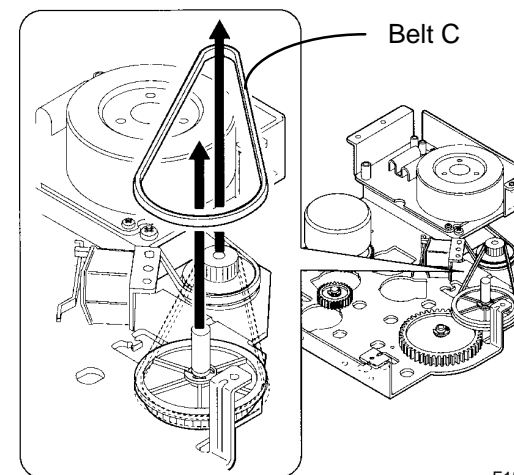

Figure 2. Removing Developer Drive Belt C
4. (Figure 2): Remove Developer Drive Belt C.